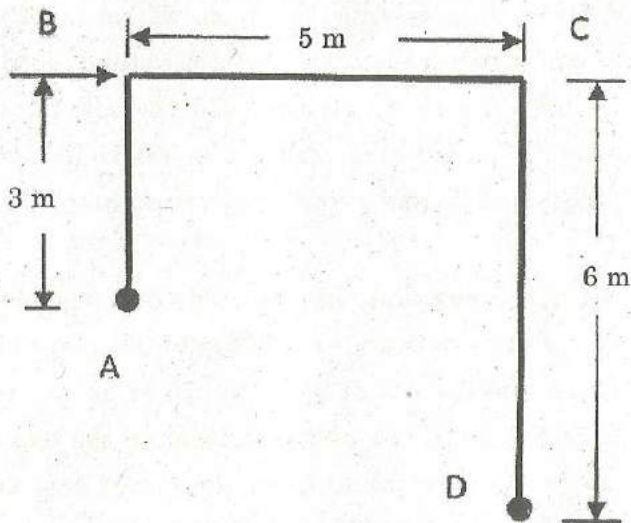

Figure 2
3. A portal frame shown in Figure 2 is to resist a horizontal load of 10 kN applied at B, the moment of inertia of the column section is I and the moment of inertia of the beam is $2I$. Determine the moments at A, B, C and D by moment distribution method. Also draw the bending moment diagram.